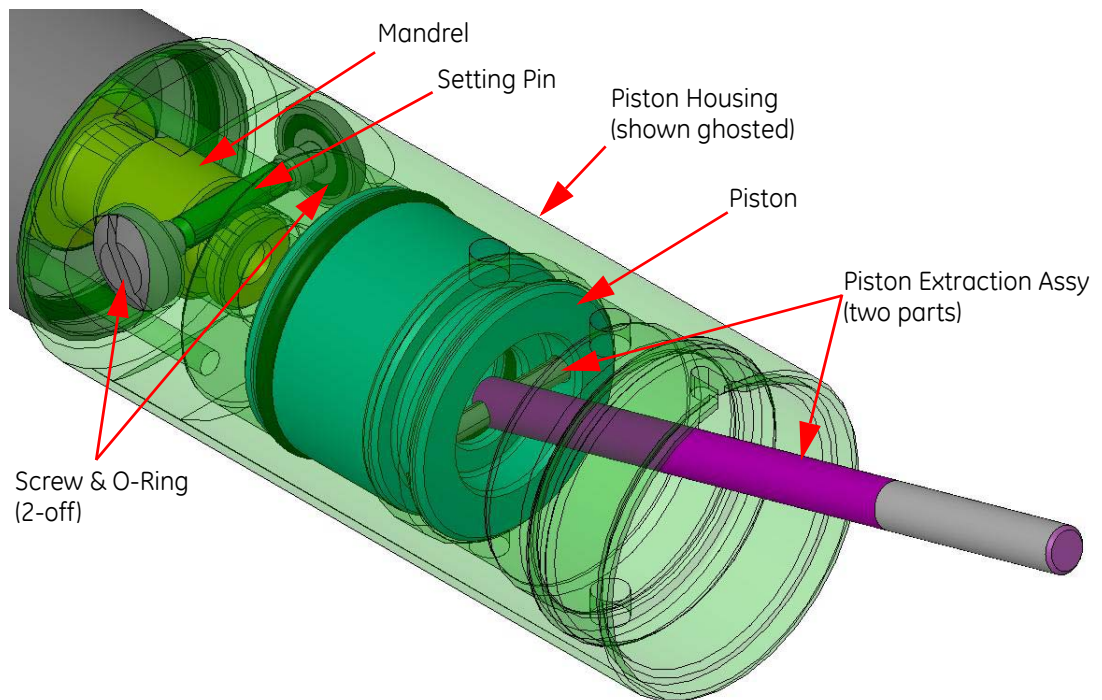

Figure 5-14 Piston Extraction Assembly installed in the Piston
- 3 Install the Piston Extraction Assembly (item 1, KITT014-NTO009) in the end of the Piston (item 4). See Figure 5-14.
- 2 Apply a thin film of Dow Corning® DC200® Oil, 100CST (P/N: 415574) to the two new O-Rings (item 24 and 25) and to the two grooves in the Piston (item 4).
- 3 Install the new O-Ring (item 24) in the internal groove of the Piston and then install the new O-Ring (item 25) to the external groove of the Piston.
- 4 Install the Piston Extraction Assembly (item 1, KITT014-NTO009) in the Piston. See Figure 5-14.